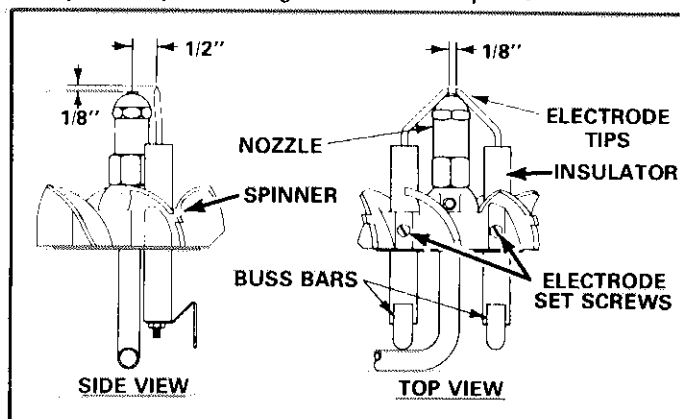

FIGURE 18
- 6 - Clean gun assembly being extremely careful not to wipe dirt or line into nozzle orifice. Clean electrode insulators and make sure buss bars on end of electrodes make good contact with ignition transformer terminals. Check electrode setting as shown in Figure 18. Electrodes may be adjusted by loosening set screws in spinner.